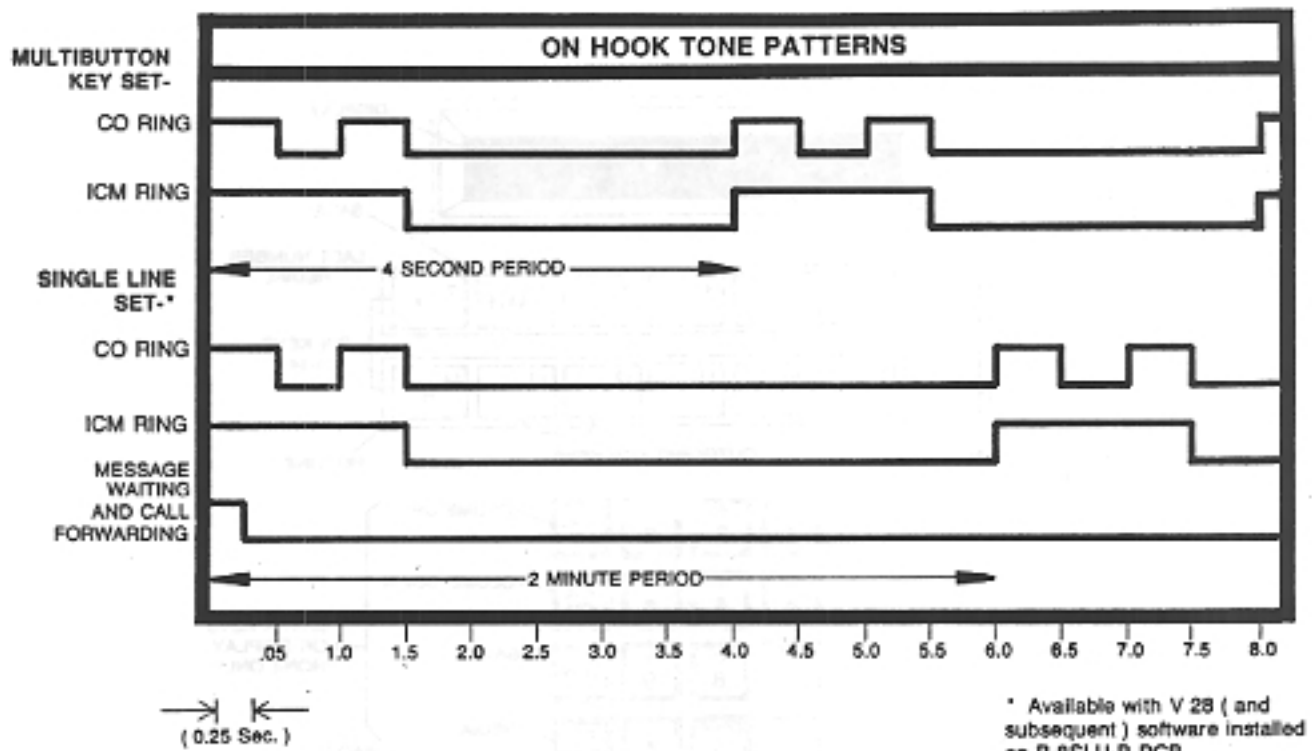

Figure 2-2 ON HOOK TONE PATTERNS, TCX-128
**2.13** The Four-Button Key Telephone is used when direct access to all features is not required. The four keys provide one-key access to the most commonly used features ( Figure 2-9 ). These keys are color coded by function. Like all of the telephones in the TCX-128 system, the Four-Button Key Telephone has unique tone signals to assist in feature operation ( Figures 2-2 and 2-3 ).